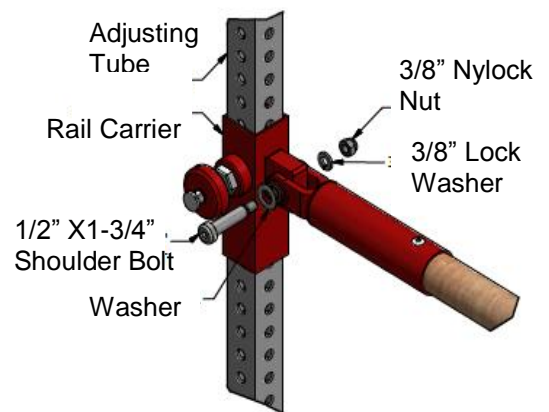

Fig. 5
1. Now place **(1)** **Rail** into both **Rail Carriers** across from one another to determine the proper location of the **Upright** (see **Fig. 5 & 7**).